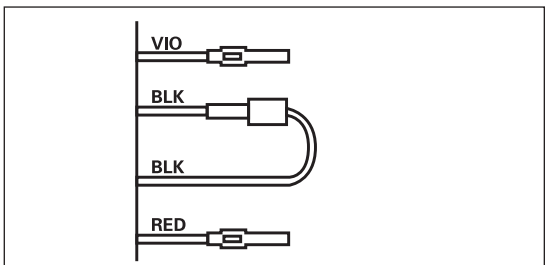

Figure 3-15 — Wiring Before Modification
2. Separate the black wires (common) from each other. (See Figure 3-15.)